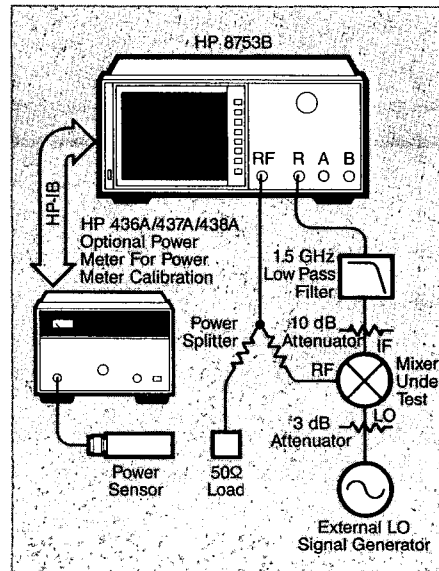

Figure 7. Block diagram for a swept IF/ fixed LO conversion loss measurement.
This step measures the frequency response of the components in the IF signal path, (attenuator, filter, and cable), and stores it into memory. This memory trace will be used to remove the frequency response of these components from the conversion loss measurement to be made with the setup in figure 7.
7. Connect the hardware as shown in figure 7, terminating the open port of the power splitter with a 50 ohm load.
8. Set the external local oscillator (LO) source to the desired fixed frequency and power level.
To enhance measurement accuracy, replace the 50 ohm load at the power splitter with the power meter and power meter sensor, as shown in figure 7. Perform a one sweep power meter calibration. This will level the power splitter's output power to a user specified value over the frequency range of the measurement.